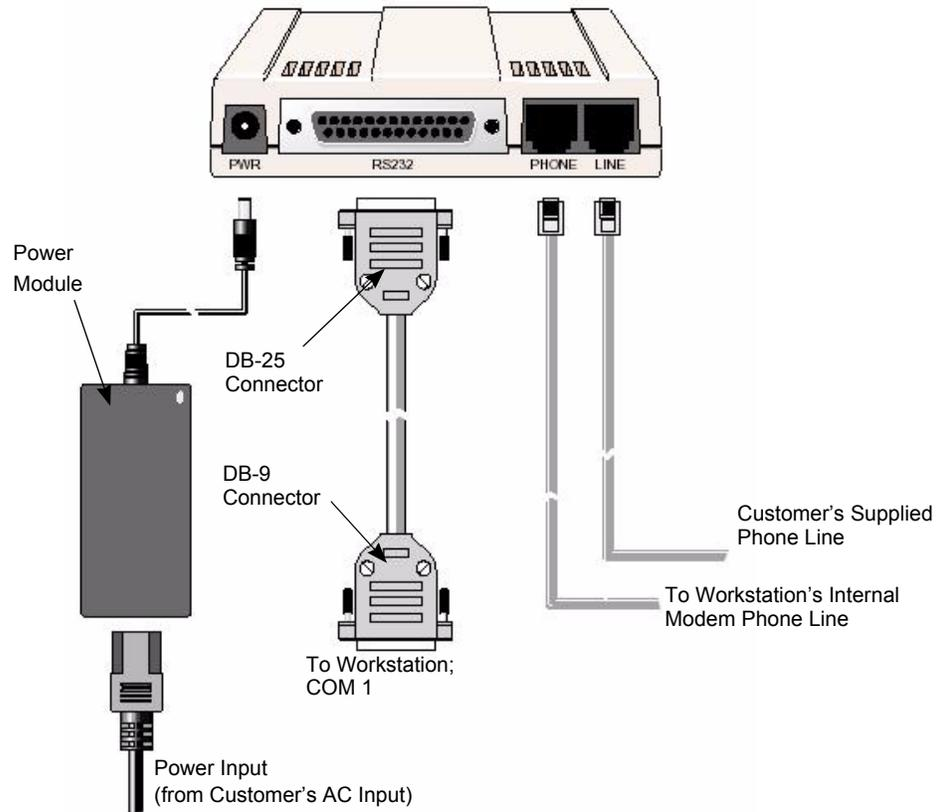

Figure 29. External modem connections
7. Using the external modem's supplied phone cord, connect a line between the external modem's phone port and the workstation's internal modem line port (see Figure 29.).